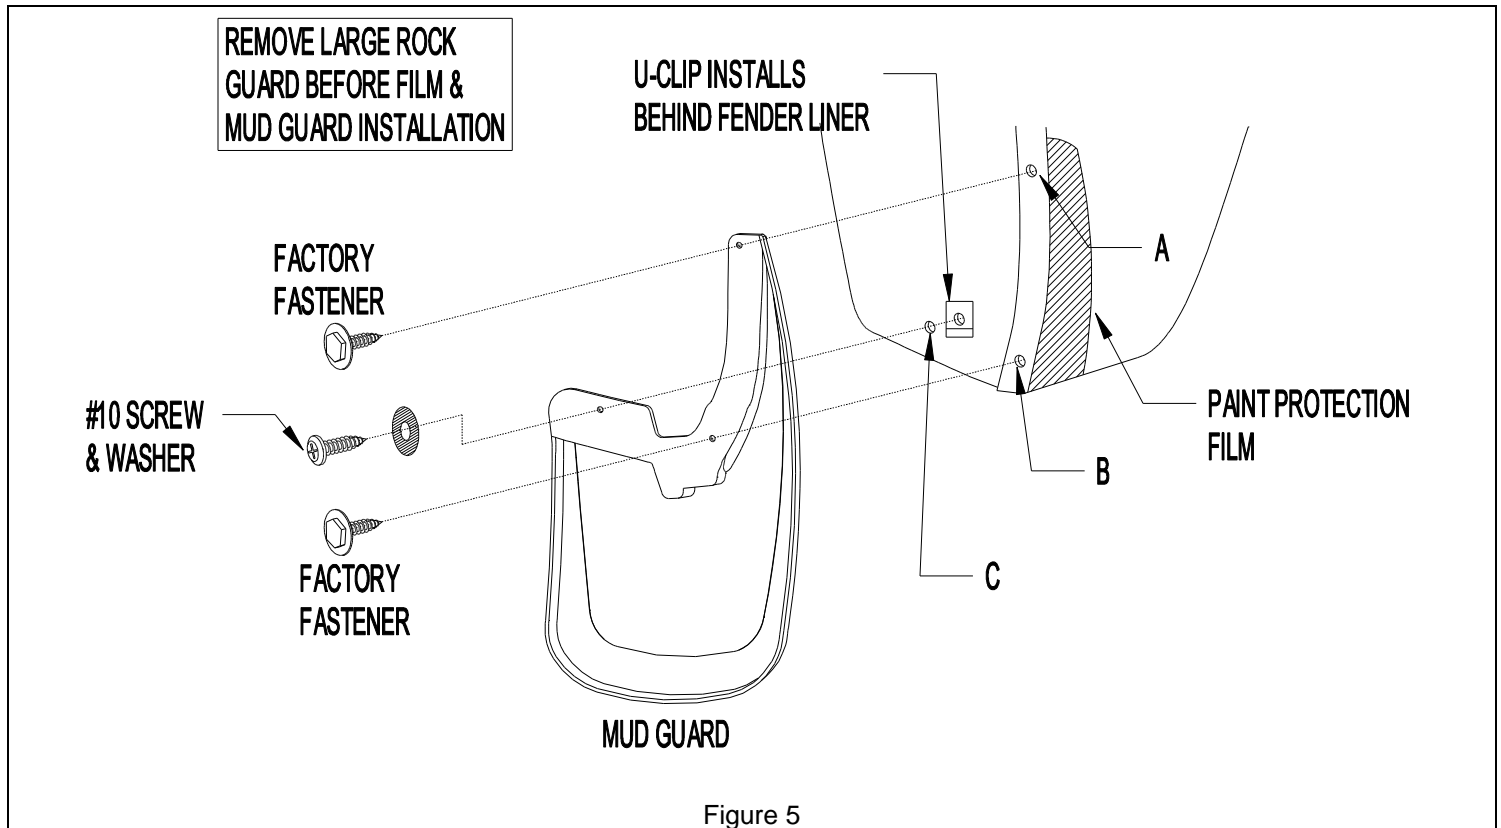

Figure 5
1. If you have the "large rock" shown in Figure 2, remove the large rock guard before you install the paint protection film as shown in Figure 5. If you have the small rock guard shown in Figure 1, leave the small rock guard in place and proceed with the paint protection film installation as shown in Figure 4.
1. Remove the existing fastener from locations A and B as well as locations C and D if you have the 'Large Rock Guard'. Replace C and D after removal of the "large rock guard" if applicable. Once again, use Figure 4 if you have the "rock guard" in Figure 1 or use Figure 5 if you have the "large rock guard" in Figure 2.